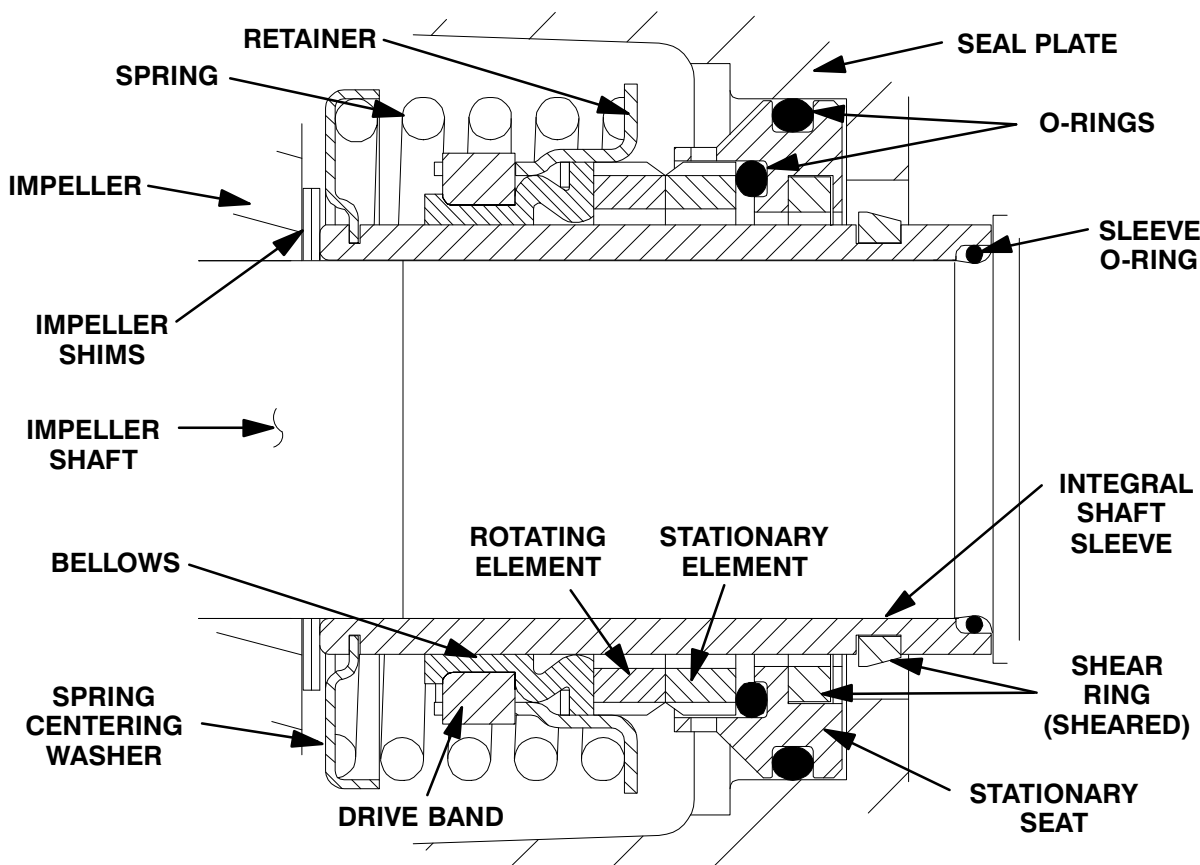

Figure 8. Cartridge Seal Assembly
sleeve O-ring (14) and the external stationary seat O-ring with a very **small** amount of light lubricating oil. See Figure 8 for seal part identification.